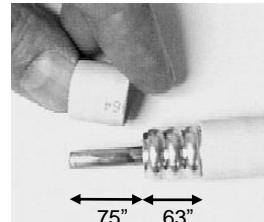

Figure 3
- 3) **Trim** center conductor to .75" (Figure 3). **Deburr** center conductor with file. **Remove** disc with razor knife and **remove** adhesive from center conductor with 3M Scotchbrite™ pad.
- 4) **Remove** .63" of jacket from the outer conductor (Figure 3).